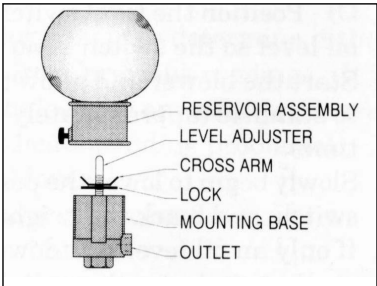

Figure 6
The opposite gear end sumps use constant level oilers. To fill the sumps, remove the top glass reservoir. Fill it with oil, place it on its holder, and let the bottle empty to fill the sump. To obtain proper oil level in the sump that is toward the center of the sight glass (90), pull out the level adjuster (A) shown in Figure 6 and raise or lower the cross-arm (B) as needed. Secure the cross arm with the lock (C), drop the assembly back into the lower reservoir, and replace the bottle. Note: Raising the cross arm (B) raises the oil level, and lowering it lowers the oil level.